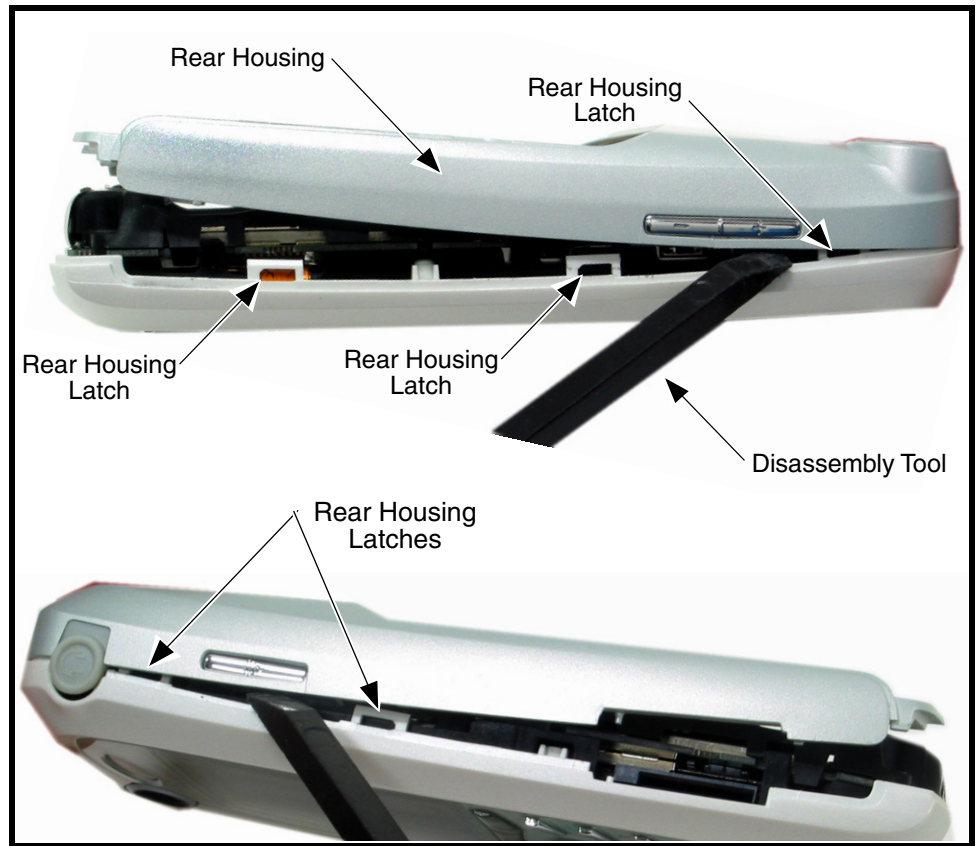

Figure 7. Rear Housing Removal (Siemens model)
3. Using the disassembly tool, release the 3 latches on each side of the phone as shown in Figure 7.